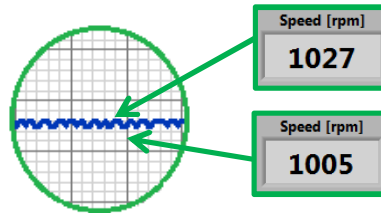

Fig. 16 – Measure of the oscillations
- 5) Measure the oscillation  $N_{osc}$  occurring in  $X_{Seconds}$  as shown in fig 16 (X can be chosen at random).